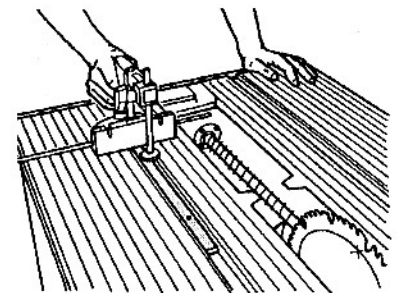

Fig. B-21
22. Place the miter gauge toward the infeed side of the table, as in Fig. B-21.